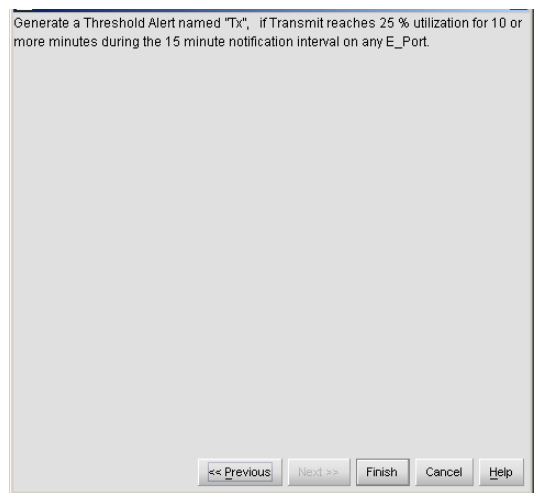

Figure 49 New Threshold Alerts dialog box - summary screen
11. Click **Next**. A final screen displays a summary of your alert configuration, as shown in Figure 49.